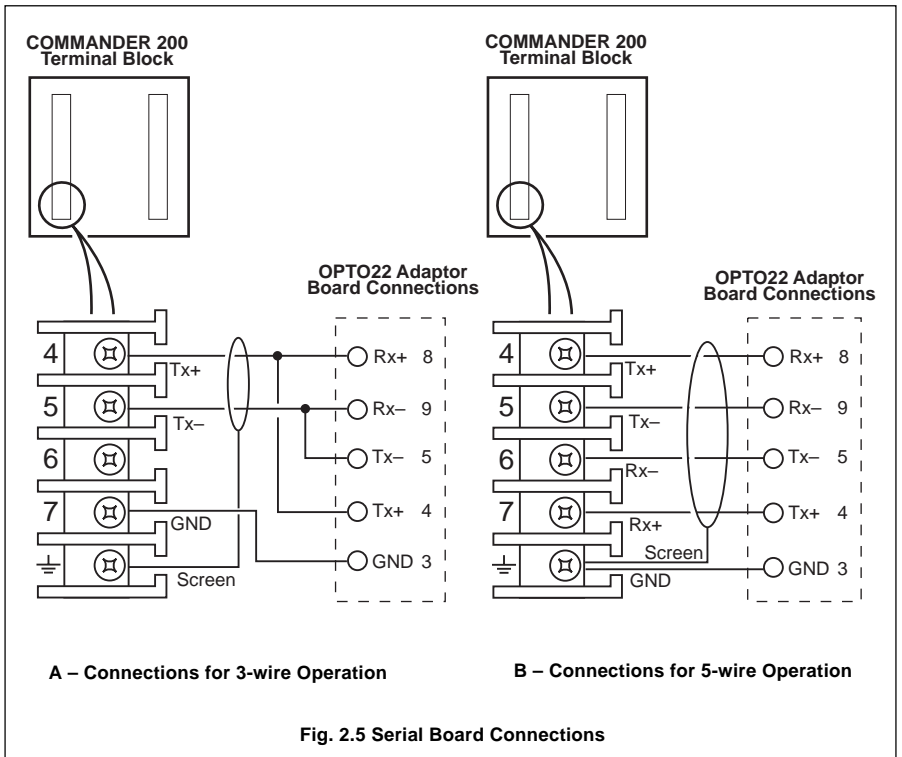

Fig. 2.5 Serial Board Connections
2.7 Serial Connections – Fig. 2.5
Make serial data connections as shown in Fig. 2.5. The type of cable used is dependent on the cable length: